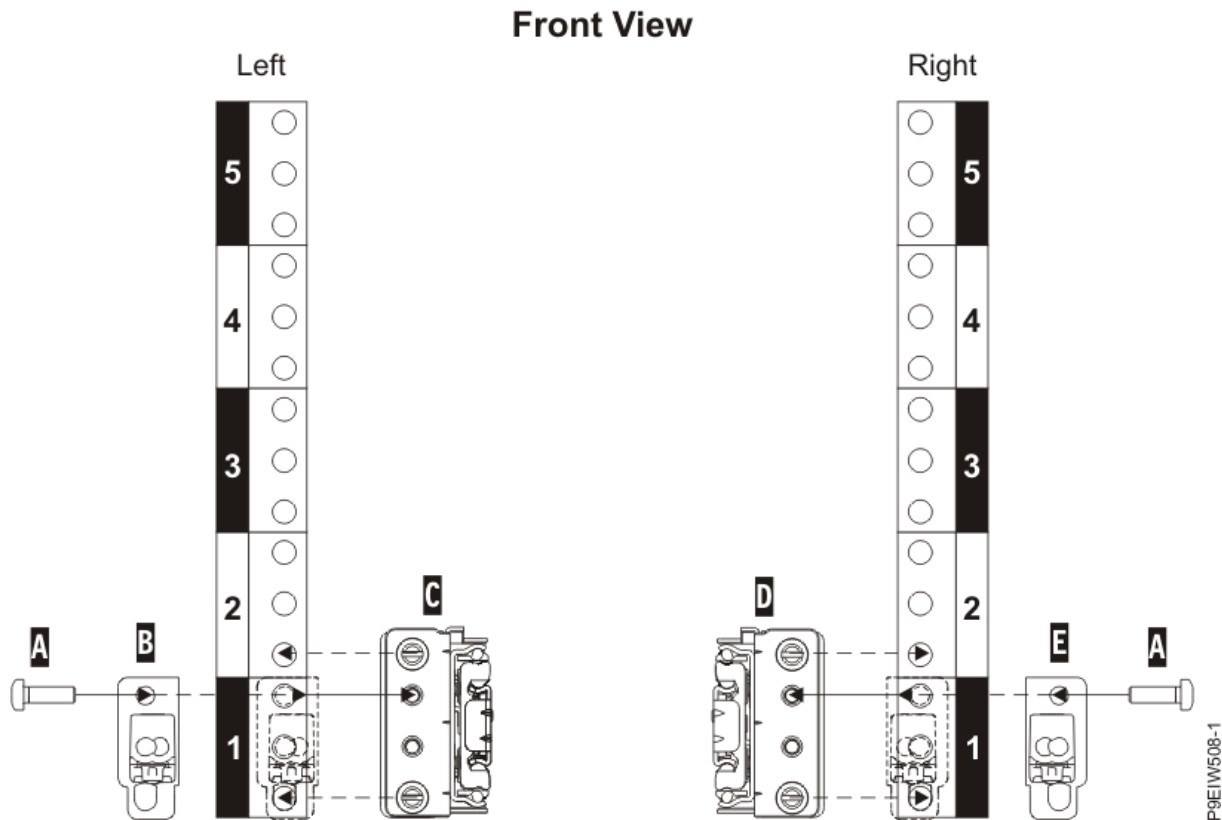

Figure 4. Attaching the slide rails at the front of the rack
2. At the front of the rack, position the left slide rail (**C**) between the left-side front and rear rack EIA mounting standards as shown in Figure 4 on page 5.
5. Position the slam-latch bracket (**B**) to cover the front EIA space of the slide rail as shown in Figure 4 on page 5.
7. Repeat steps “1” on page 5 through “6” on page 5 for the right slide rail (**D**) as shown in Figure 4 on page 5. The right slide rail is stamped with an R identifier on the inside front location.